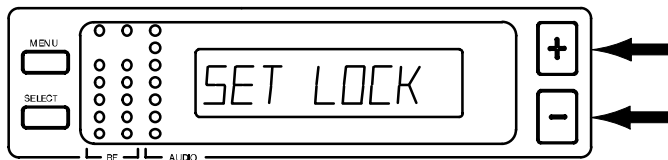

FIGURE 30
2. Press either the + or – button to reach the "SET LOCK" display, as shown in Figure 30.